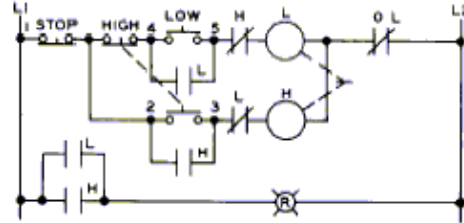

Fig.45 Two Speed Starting with pilot light indicator.
The circuit in Fig.45 is used when the motor must start initially at low speed, e.g. a motor driving a big flywheel. This circuit requires an extra electromechanical relay for control (CR), called compelling relay. Pressing the high button will not start the motor initially, as contact CR-2 is open. However, if the motor has been running at low speed, the CR relay is energised and sealed. Contact CR-2 is closed. In that situation, pressing the high button runs off low (the upper section of the push button) and energises the high contactor. Note that the motor can be started in low when it is at rest.
29. Two Speed Starting + Pilot light to indicate Motor Operation at Each Speed (Fig.45)